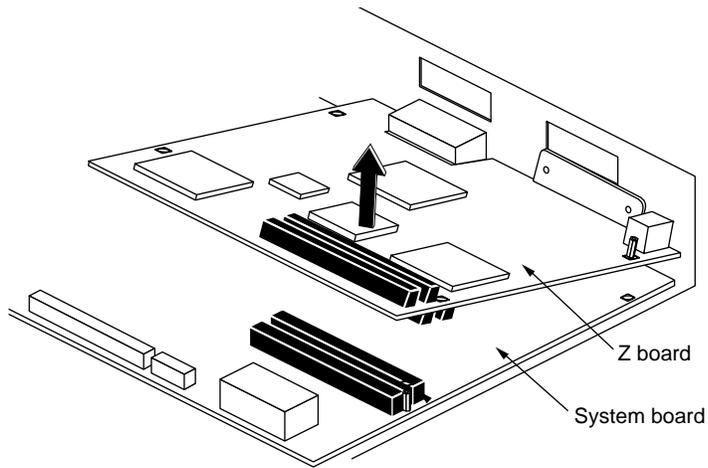

Figure 1-17 Disconnecting the Z Board From the System Board
6. Disconnect the Z board from the system board, by grasping the board firmly on the side close to the system disk drive and pulling up to disconnect the two connectors underneath the board. See Figure 1-17.